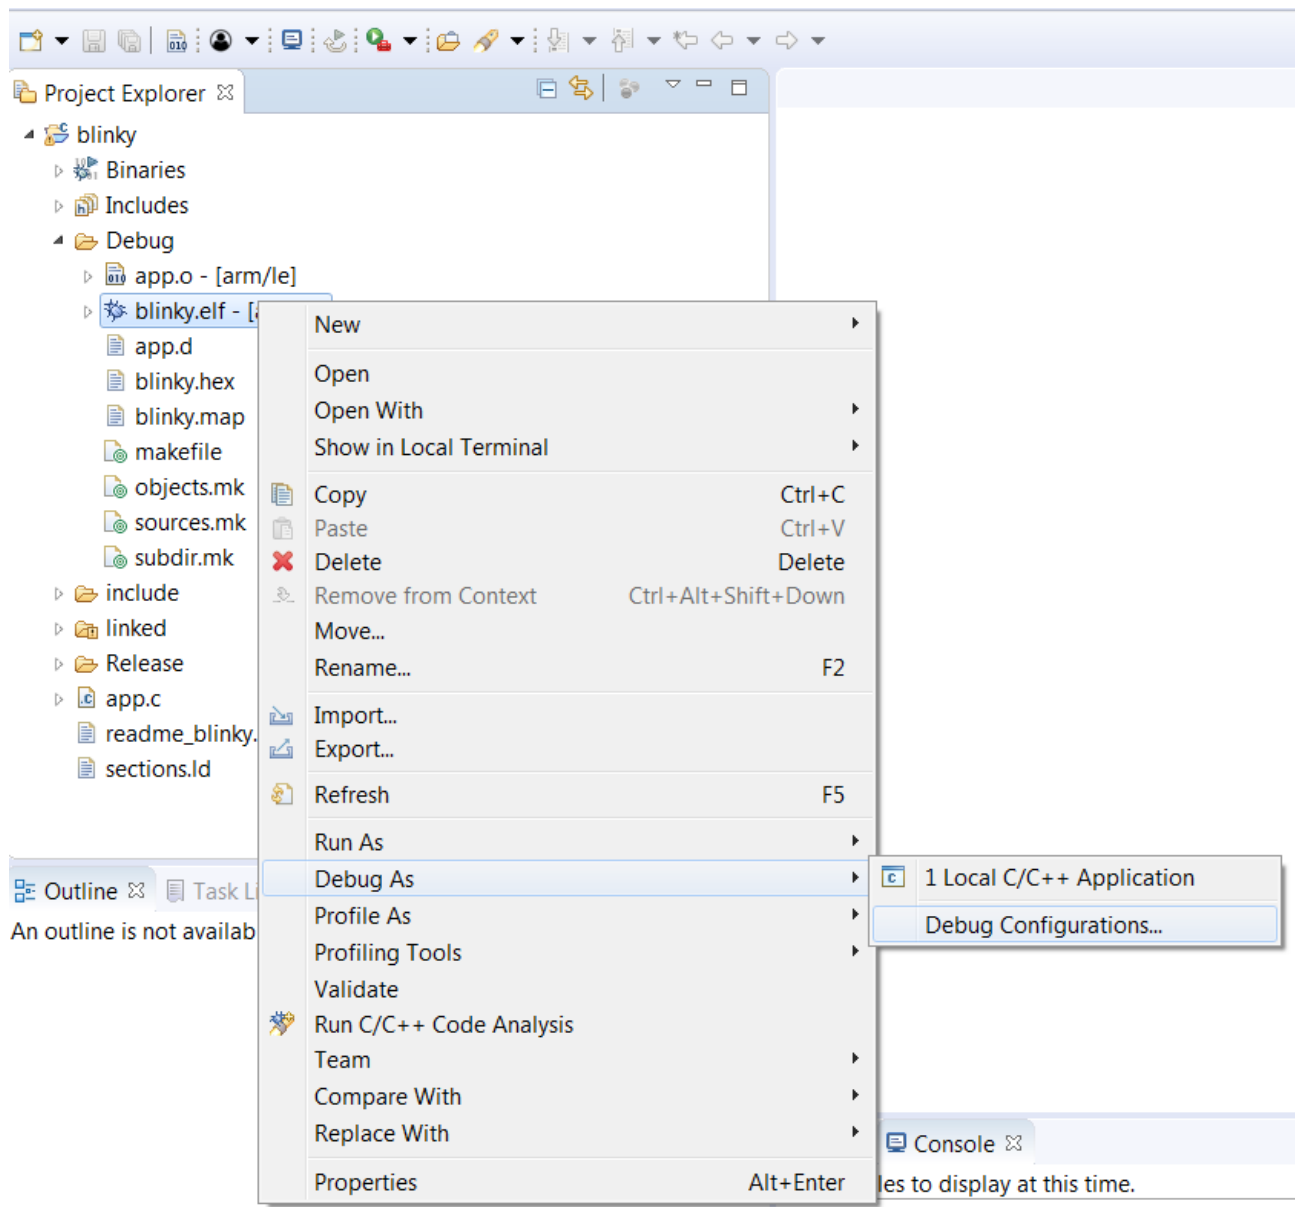

Figure 20. Arm Cortex-M3 Processor Debug Configuration, Step 1
1. Right click on the built *.elf* file (**blinky.elf** in this case) and select **Debug As > Debug Configurations**, as shown in the figure "Arm Cortex-M3 Processor Debug Configuration, Step 1" (Figure 20).